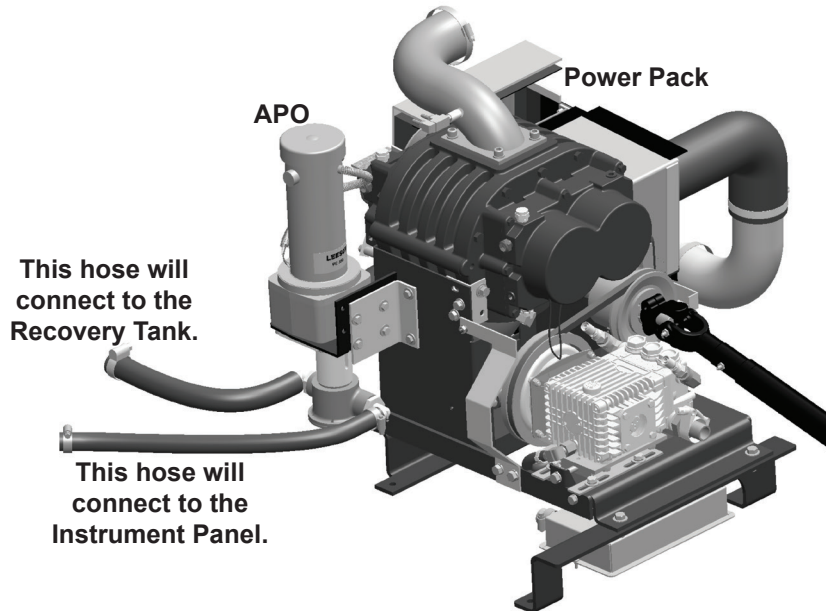

Figure 32. Install APO onto Power Pack
1. Secure the APO to the Power Pack Assembly using two 1/4"-20UNC x 0.75" hex head bolts and two 1/4" washers (see Figure 32).
2. Locate the two hoses for the APO (see Figure 32).